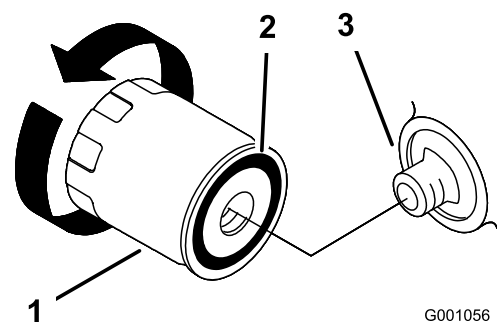

Figure 21
2. Remove the old filter and wipe the filler adapter gasket surface (Figure 21).
3. Apply a thin coat of new oil to the rubber gasket on the replacement filter (Figure 21).
4. Install the replacement oil filter to the filter adapter, turn the oil filter clockwise until the rubber gasket contacts the filter adapter, then tighten the filter an additional 2/3 to 1 turn (Figure 21).